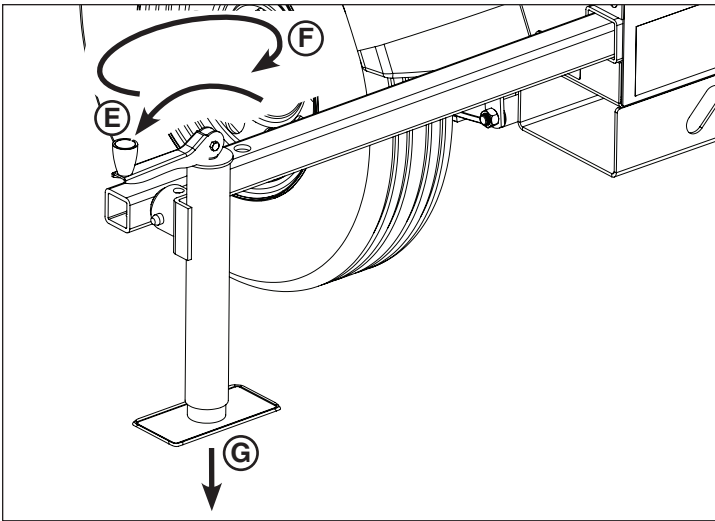

Figure 15
- d. Unfold the handle (E, Figure 15) of the stabilizer jack, then turn clockwise (F) to lower the jack foot (G) until firmly planted on the work site surface.